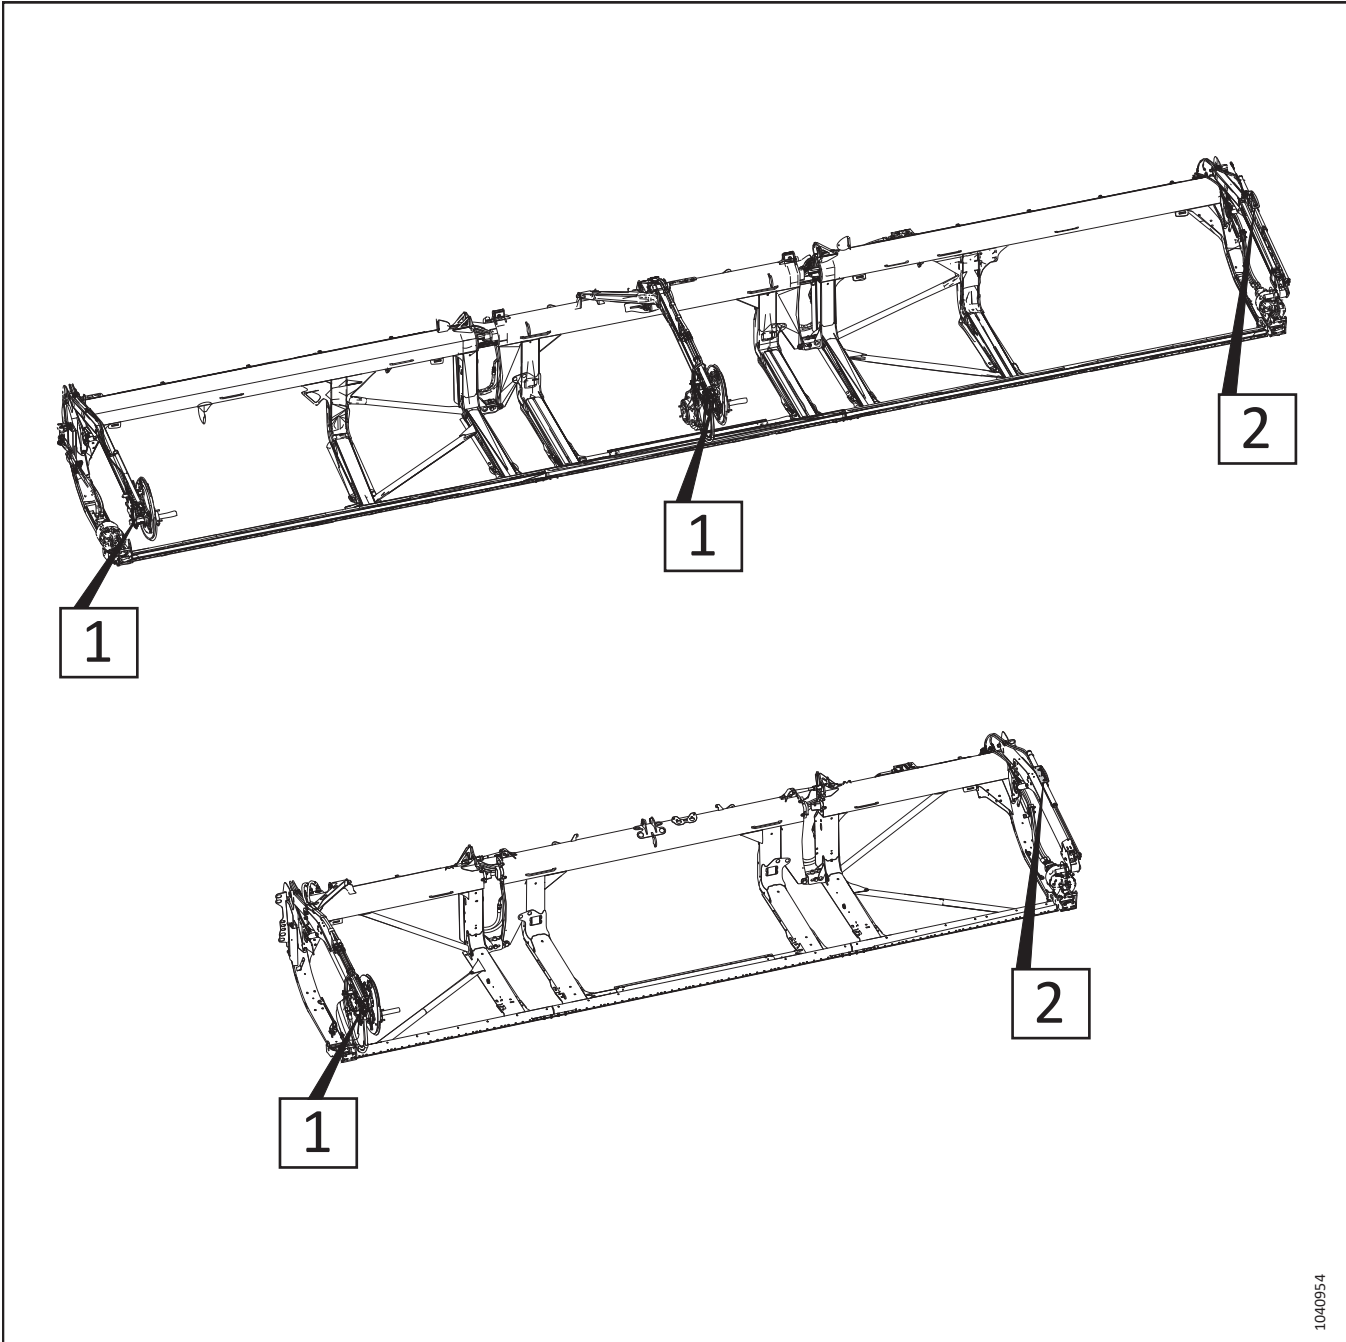

Figure 3.49: Adjustable Fore-Aft Cylinders – Procedure Reference Numbers
5. Refer to Figure 3.49, page 90 to determine the fore-aft cylinder adjustment procedures for your header type. The number on the illustration refers to one of the following procedures: